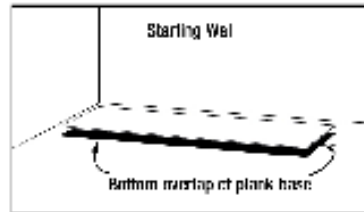

Fig. 2 Beginning the first row.
- Most installations will start along the longest straight wall in the room. The planks will be installed starting in the corner of the room on the left side of the starting wall (as you are facing it) (Fig. 2). Remove the paper release liner exposing the adhesive on the bottom.